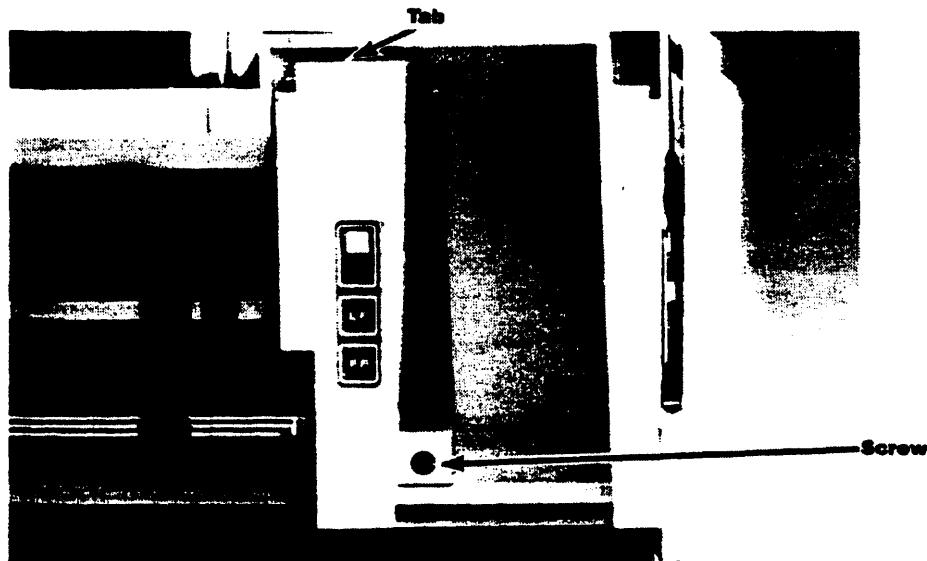

Figure 6-11. Printer Switch Panel
13. Remove the printer switch panel as follows. Remove the screw shown in figure 6-11, move the front of the panel slightly to the right to clear the screw post, then lift the panel up and out.
To replace the printer switch panel, orient it properly, insert the tab into the slot at an angle, and drop the panel into place. Install the screw (see figure 6-11).